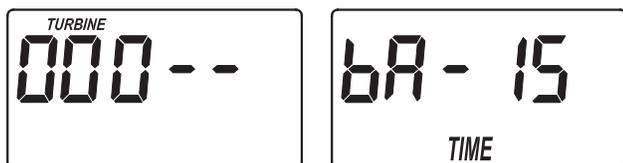

FIG. 15
1. Press and hold for 3 seconds the SELECT button, until the display shows "000 - -", then press the SELECT button again to display the backwash time adjust screen (See Figure 15).